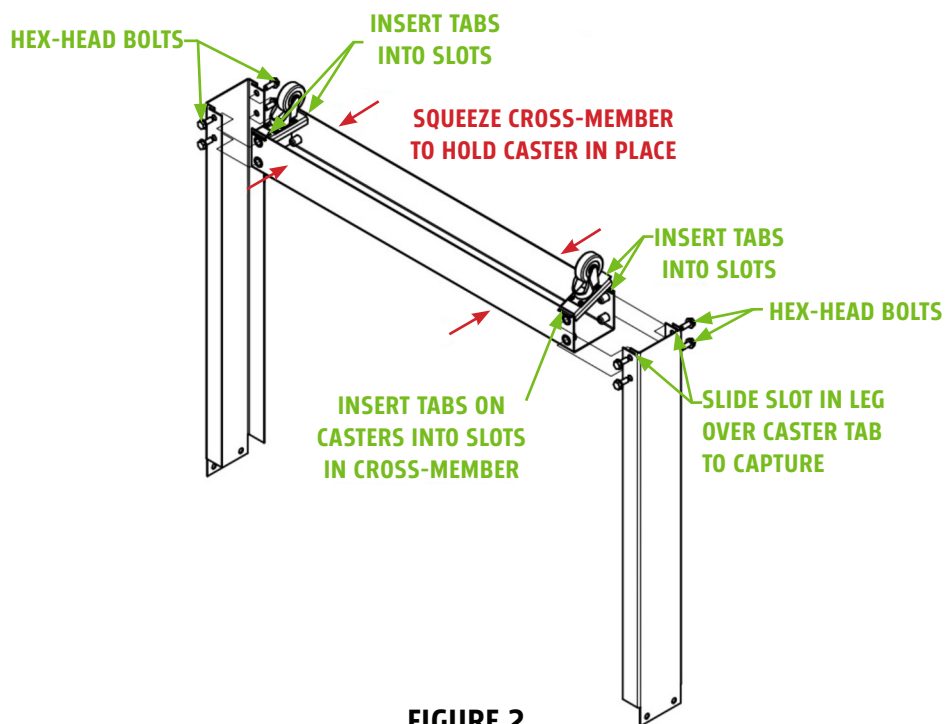

FIGURE 2
4. Insert the Tabs on the Caster Assembly into the slots on the Leg Cross Brace, then squeeze the Cross Brace to hold the Caster in place (See **Figure 2**).
7. Repeat for the four Caster Assemblies, completing the two Leg Assemblies (See **Figure 2**).